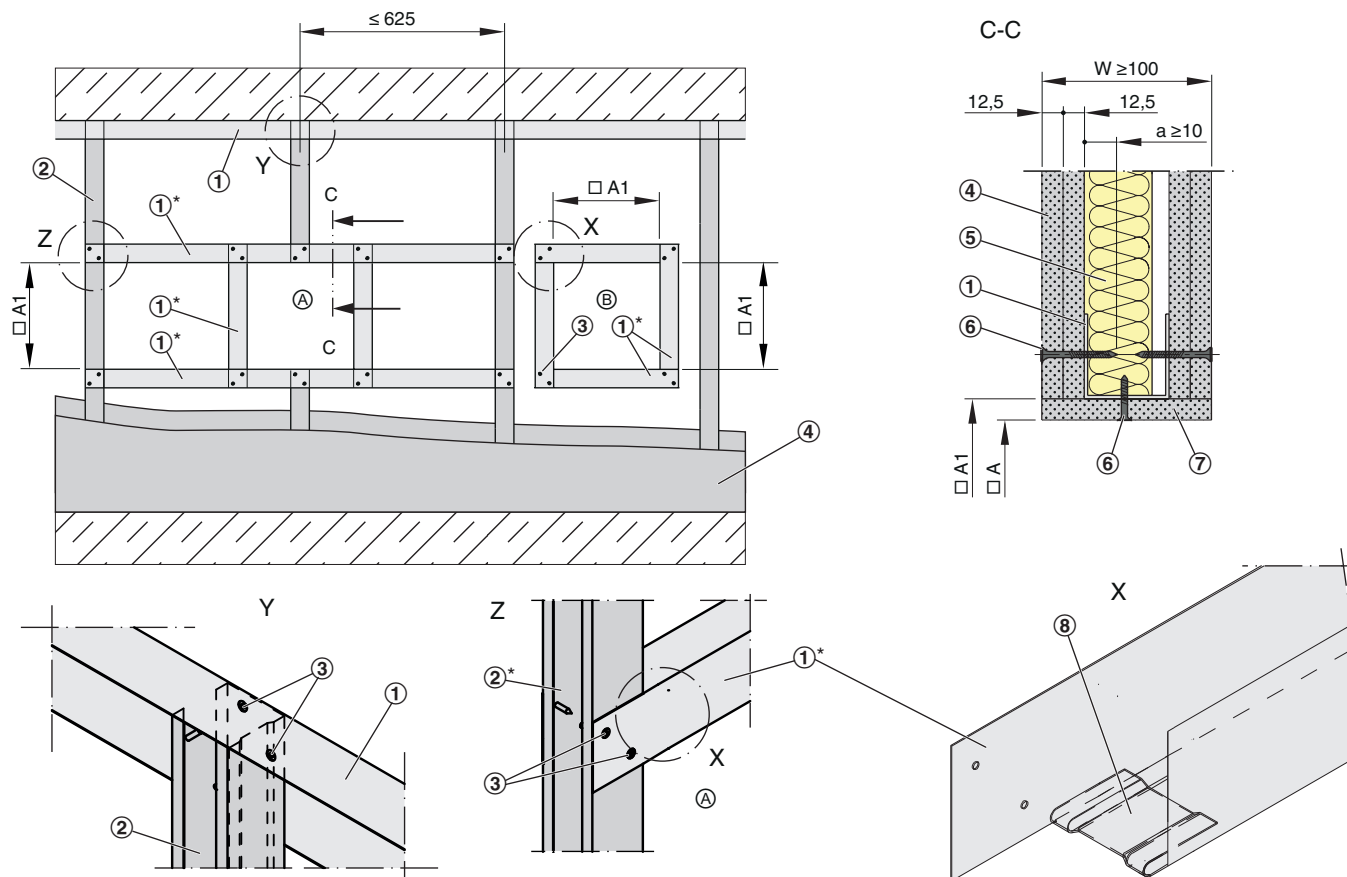

Fig. 16: Lightweight partition wall with metal support structure and cladding on both sides
- Erect the lightweight partition wall according to the manufacturer's instructions and create an installation opening, see Fig. 16